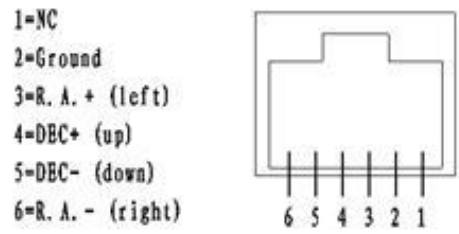

Figure 6. ST-4 Compatible Guiding Port Wiring
- ST-4: ST-4 compatible autoguiding port. The wiring is shown in Figure 6